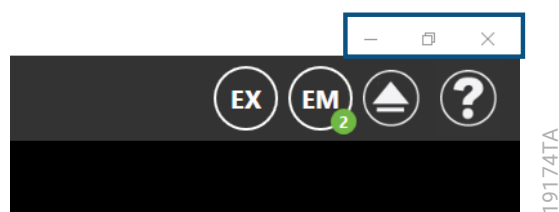

Figure 15. Windows® close, maximize and minimize buttons on the GloMax® Galaxy Control Software window inside the blue box.
The 'Home' screen and all others contain basic Windows® functions for minimize, maximize and close at upper right corner of the control application window (Figure 15).
Excitation Modules	Displays the installed excitation module (Figure 15).
1. The GloMax® Galaxy Imager should be on and connected before attempting to remove the filter slide. Select the **EM** button on the Galaxy® Control Software header to open the Emission Filter Configuration (Figure 15).